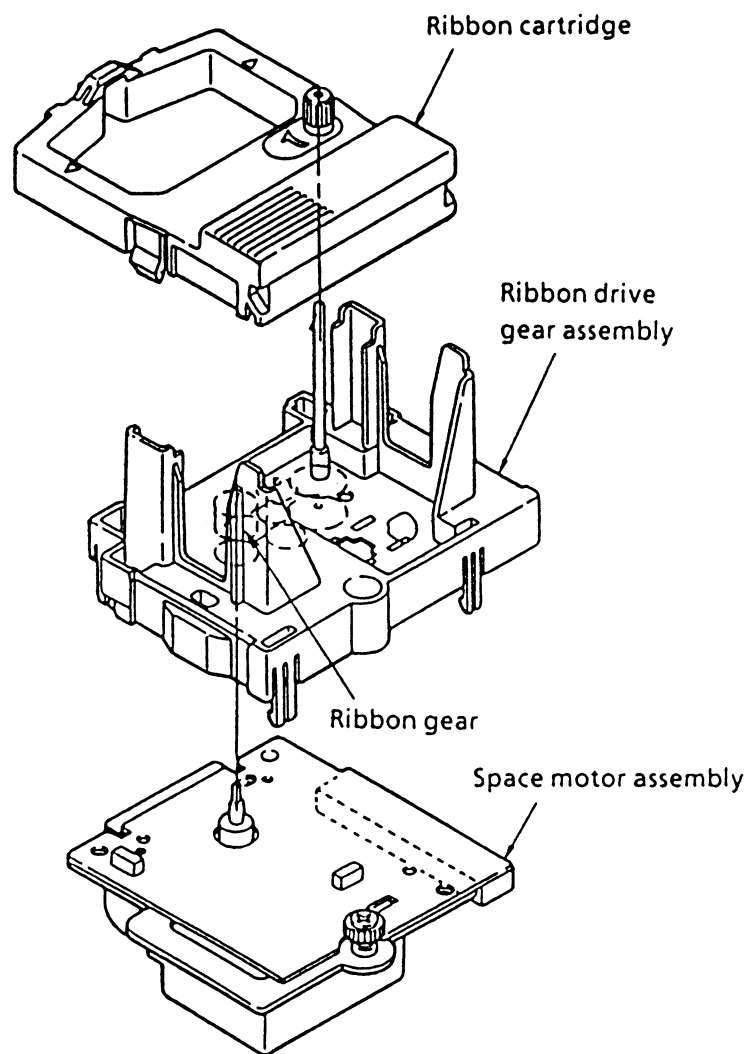

Figure 3-6 (a)
3.2.4 Ribbon drive operation (See Figure 3-6)